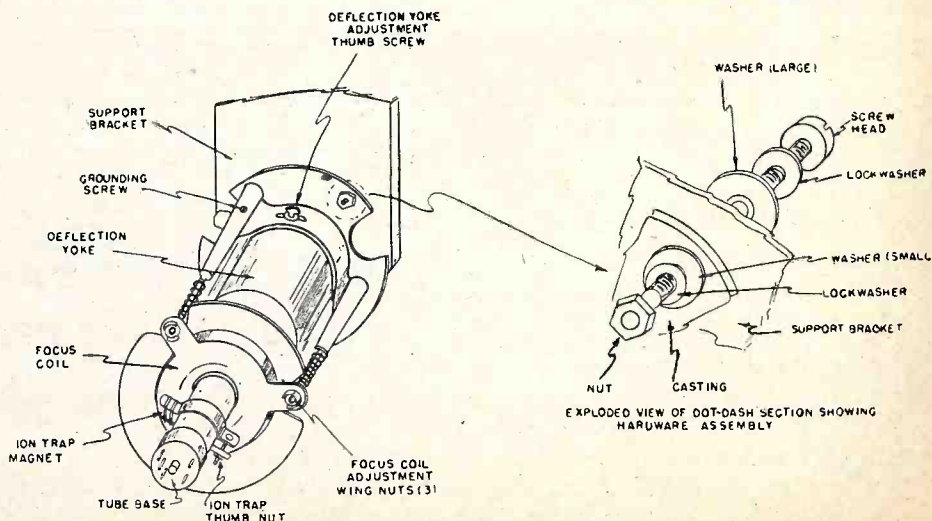

Fig. 1. Deflection yoke and focus coil assembly.
hardware provided. See Fig. 1 for proper hardware assembly and mounting procedure.
6. Remove the 6-32 grounding screw from the yoke frame (see Fig. 1 for location). Attach the ground lug on the brown wire coming from the chassis, and replace the screw.